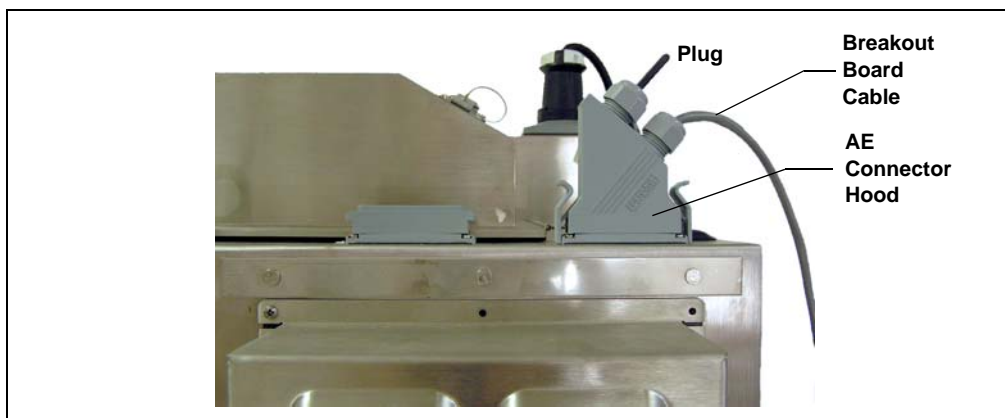

Figure C-15. AE Connector Hood with Breakout Board and Cable Installed
- i. Plug the assembled connector hood into the corresponding TTL or relay connector on the top of the AE (see Figure C-15).